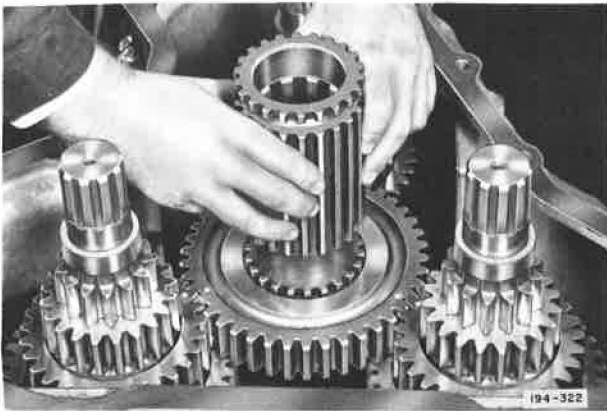

Figure 5-191. Installing Second/Third Speed Sliding Clutch
4. Install second/third speed sliding clutch and engage with third speed gear clutch teeth. See Figure 5-191.